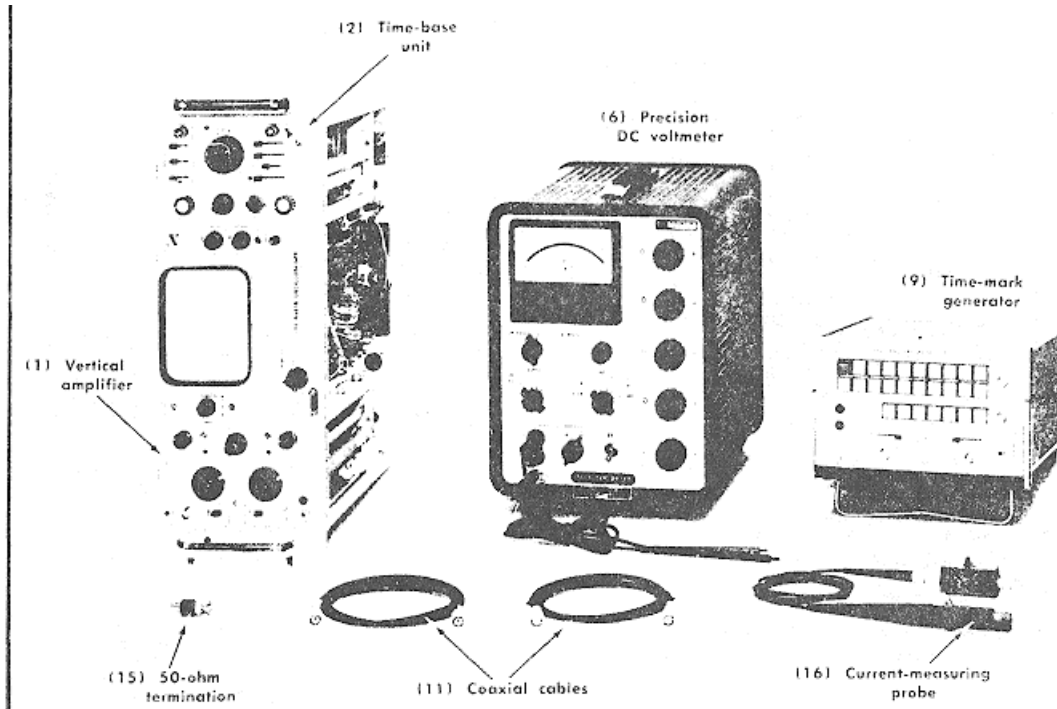

Fig 5-15. Test equipment required for steps 18 through 22.
- a. Test equipment required for steps 18 through 22 is shown in Fig. 5-15. The illustrated equipment is keyed to that listed under Test Equipment Required.